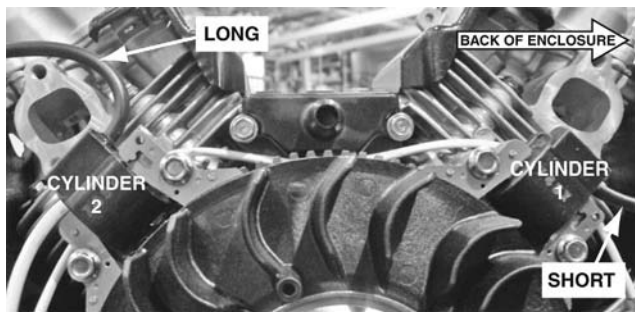

Figure 146.
4. When installing new magnetos there will be one with a short plug wire and one with a longer plug wire (Figure 146).